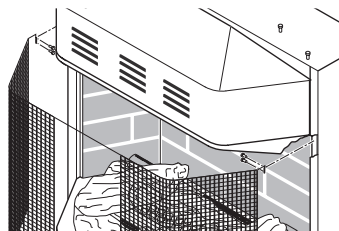
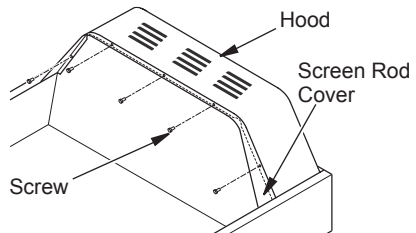
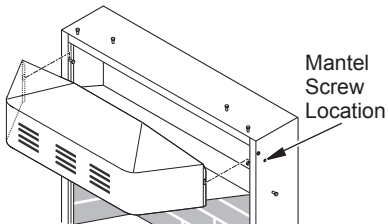

Figure 11 - Removing Screen
Figure 12 - Removing Hood Screws
Figure 13 - Removing Hood
2. Remove screen from fireplace by removing screws in each end of screen rod (see Figure 11). Hold screen rod cover while removing five hex head screws underneath hood (see Figure 12). Carefully lift and pull out hood (see Figure 13, page 12).
11. Attach remaining two 3" wood screws from hardware pack through openings inside of fireplace sides into the mantel. See Figure 13 for screw hole location.